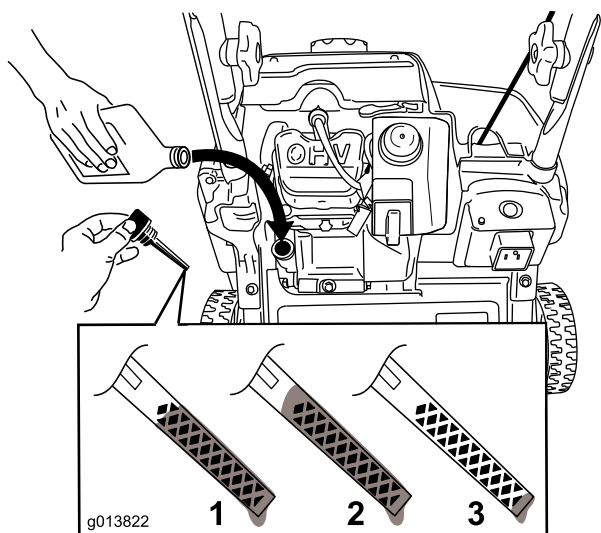

Figure 7
**Note:** To determine the proper oil level on the dipstick, refer to Figure 7.
**Note:** Fill the engine crankcase with oil until the dipstick indicates that the engine oil level is correct as shown in Figure 7. If you overfill the engine with